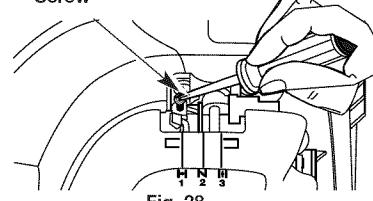

Fig. 28
The idle speed of the engine is adjustable. An idle adjustment screw is between the air filter cover and the engine starter housing (Fig. 28).
2. Release the throttle trigger and let the engine idle. If the engine stops, insert a small phillips in between the Air Filter Cover and the Engine Cover (Fig. 28). Turn the idle speed screw in, clockwise, 1/8 of a turn at a time (as needed) until the engine idles smoothly.